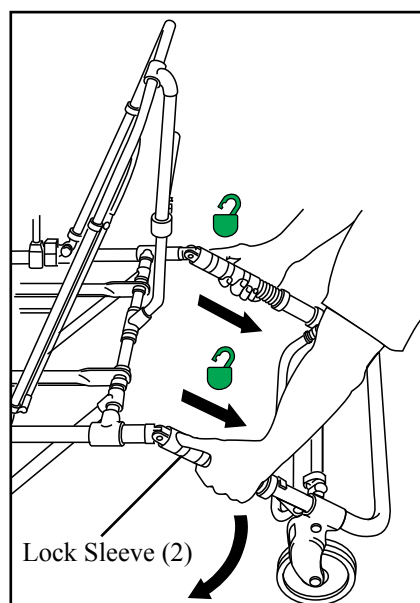

Figure 18 - Lowering Drop Frame
3. Grasp the lock sleeves on the drop frame and slide them toward the head end of the cot to expose the hinges (Figure 18).